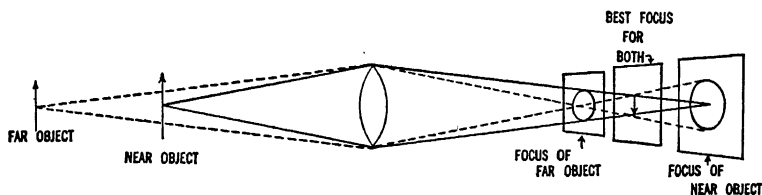
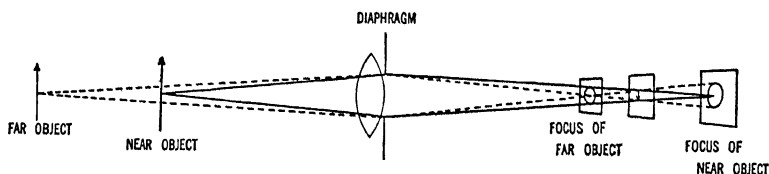

FIG. 3. FOCUS FOR FAR AND NEAR OBJECTS, SHOWING CIRCLES OF CONFUSION
FIG. 4. STOPPING DOWN REDUCES CIRCLES OF CONFUSION
*Near and Far Objects.*—Figure 3 shows a near object and a far object and the positions at which they focus sharply. The dotted lines show where the rays of light from the far object come to a sharp focus and the solid lines show where the rays of light from the near object come to a sharp focus. Because we want some depth of field in our picture, that is, because we want to photograph some near and some far objects in the same picture, in addition to the principal object, we want to know what range of object field we can have. This diagram assumes that the lines marked near and far object are the nearest and farthest that we could use.
*Stopping Down.*—In Fig. 3 you will note that the rays of light from the near and far objects are passing through the entire lens. Figure 4 shows how the rays of light pass through the lens when the diaphragm is opened only part of the way. With the smaller opening the circles of confusion are much smaller; a greater depth of field and depth of focus can be had. This means that the pictures will be sharper and that more of the field of view will be in focus. On the other hand, there is much less light entering the camera, so that the exposure will have to be much longer than with the lens used at full aperture. This partial closing of the aperture is called “stopping down,” and it is so called because the various